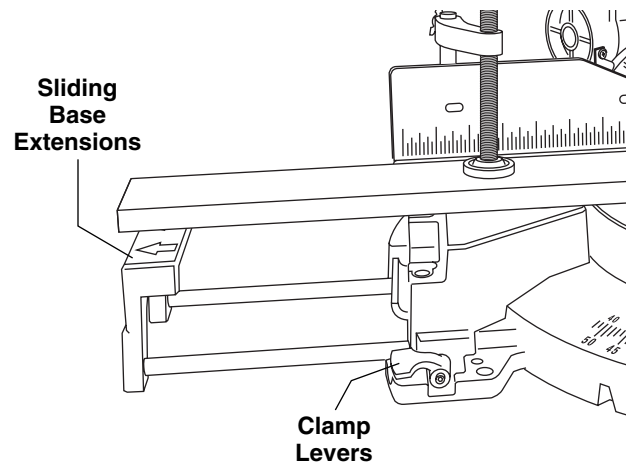

Figure 2. Sliding Base Extensions
**Sliding Base Extensions** – These extensions provide extra workpiece support and are especially useful when cutting long workpieces. To reposition the extensions, simply unlock the Base Extension Clamping Levers, reposition the extensions, and re-lock the levers (Figure 2).